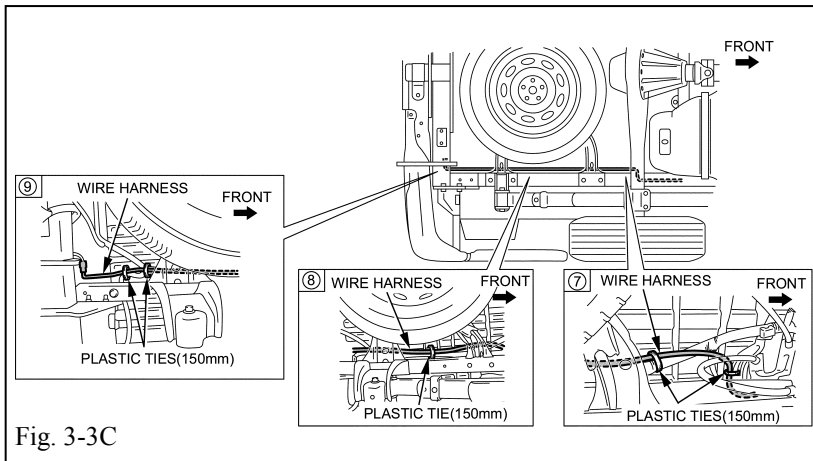

Fig. 3-3C
- ⚠** (2) Route the wire harness so that it does not interfere with the brake line, fuel line, and others. Use the correct amount of ties as listed in the table below. (Fig. 3-3C)